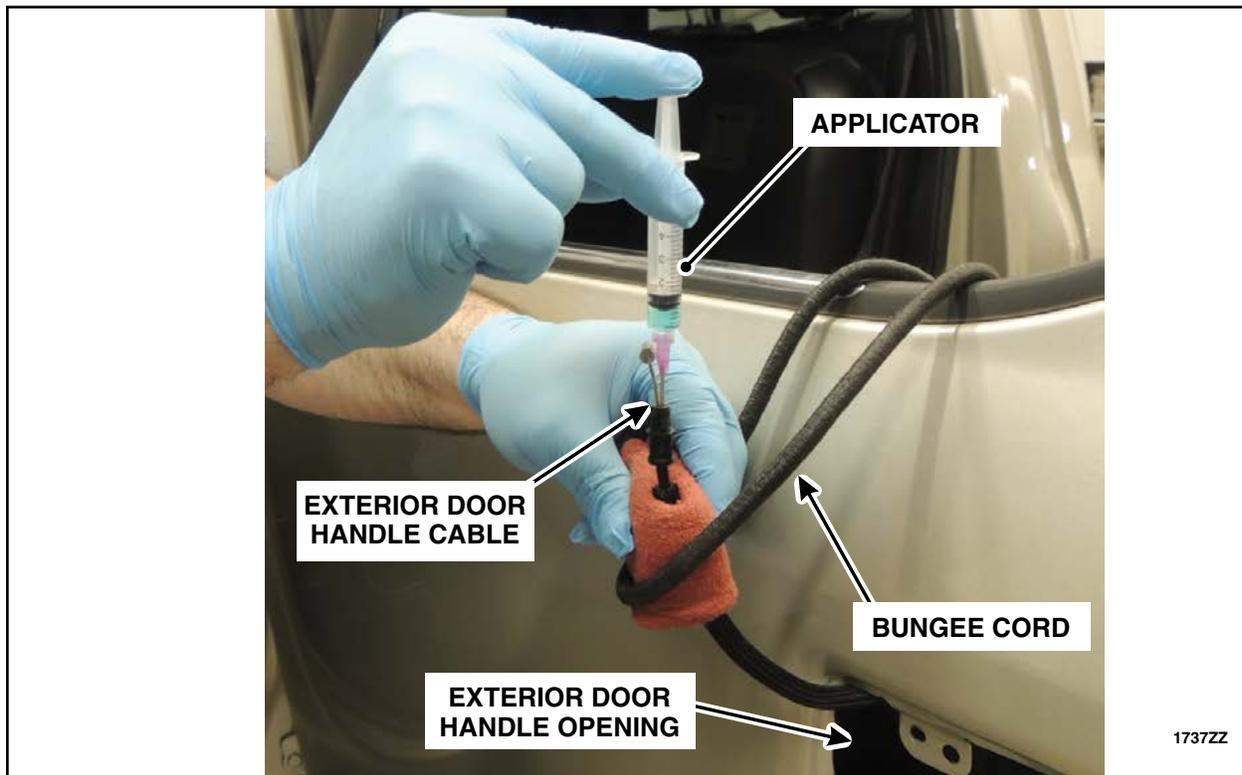

FIGURE 21
25. Towel dry the exterior door handle cable to absorb any residual moisture. Using a bungee cord or other similar device secure the exterior door handle cable to the door in an upward position as shown in Figure 21, to allow the undiluted Motorcraft® Premium Windshield Wash Concentrate (ZC-32-B2) or a 99 percent methyl hydrate (methanol) product time to run down into the cable, until the exterior door handle cable is reinstalled later in this procedure.